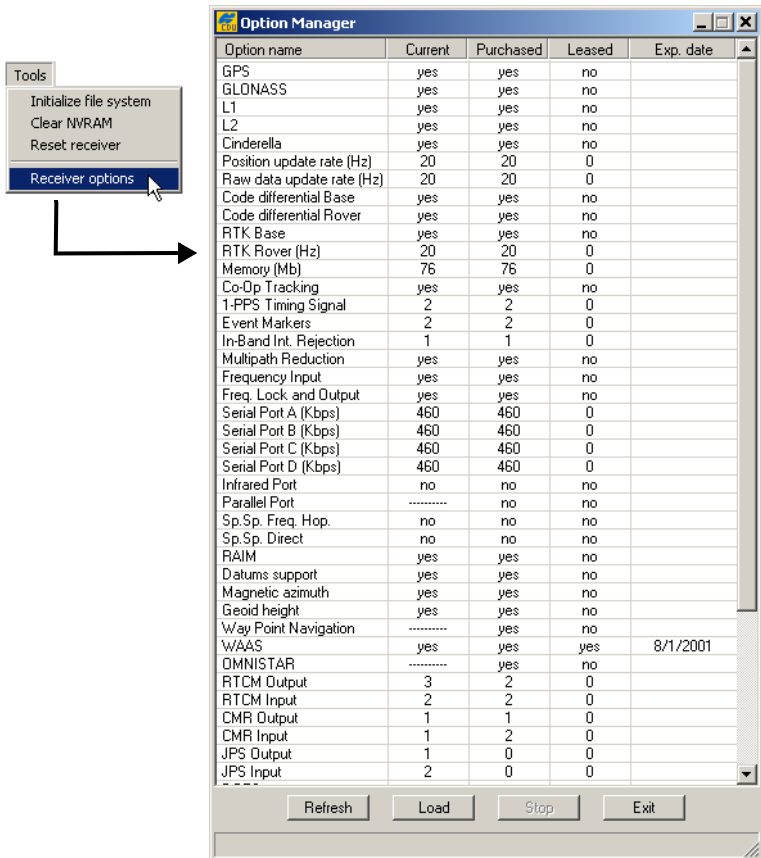

Figure 5-15. View Option Manager
2. Click **Tools ▶ Receiver Options**. The *Options Manager* dialog box (Figure 5-15 on page 5-11) contains the following information:
2. Click **Load** at the bottom of the *Option Manager* dialog box (see Figure 5-15 on page 5-11).